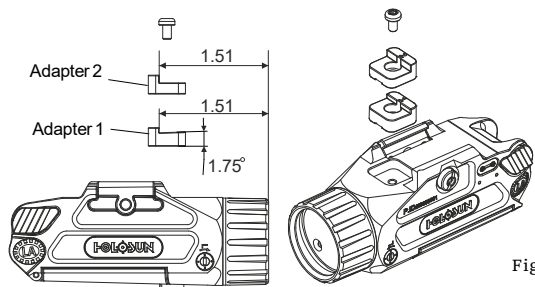

Fig 5
The P.ID PLUS/DUAL comes with 2 adapters, Marked as 1 and 2 respectively. See Fig 5. Both adapters are meant for any firearms with MIL-STD 1913 or similar rail. To change out the rail interface adapter, the P.ID PLUS/DUAL must be removed from the accessory rail. Select the adapter which matches the angle of your accessory rail.
3) Place the fixed side of the rail clamp against the firearm rail, use the included tool to turn the clamp screw head clockwise completely until the P.ID PLUS/DUAL is secured onto the rail and cannot be moved forward or back. See Fig 5